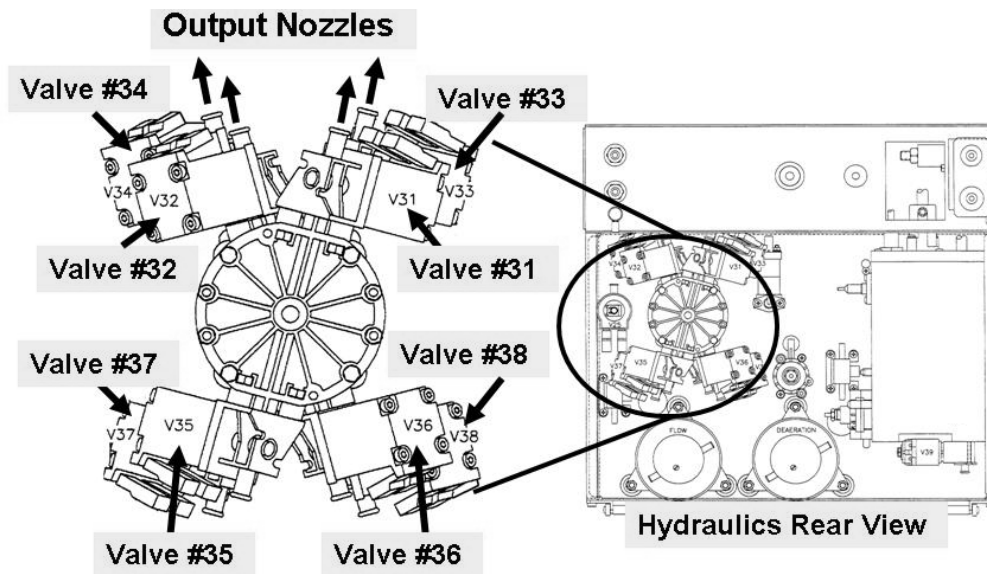

Figure 96 – Balancing Chamber Valves
- b) Repeat the Diagnostic Valve Leak Test on the leaking valve(s). TWO (2) possible scenarios:
- 2) **IF fails:** Replace the leaking valve(s). To LOCATE the valve refer to Figure 96 (page 579). **NOTE!** The previous Actuator-Test Board is probably good!
NOTE: Needle nose pliers are required (DO NOT use a plastic clamp) to QUICKLY clamp valve #35's or valve #37's white (bottom) tubing IF a leak is seen. Referring to Figure 96 (page 579), locate these valves at this time (left side, bottom).